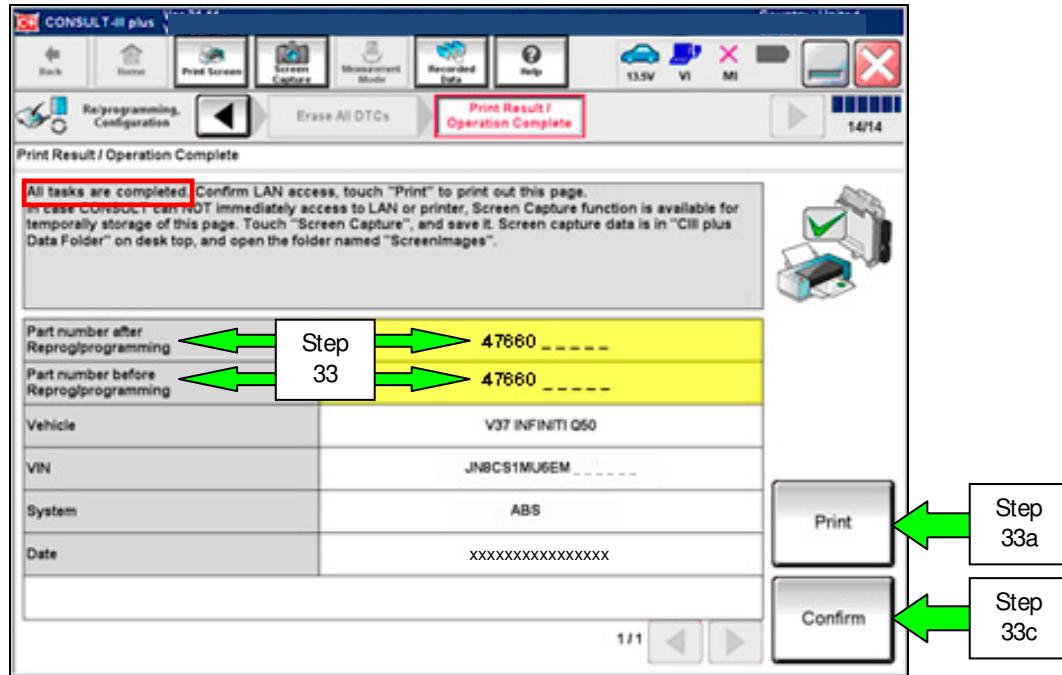

Figure 19
- a. Print a copy of the screen in Figure 19 by selecting Print.